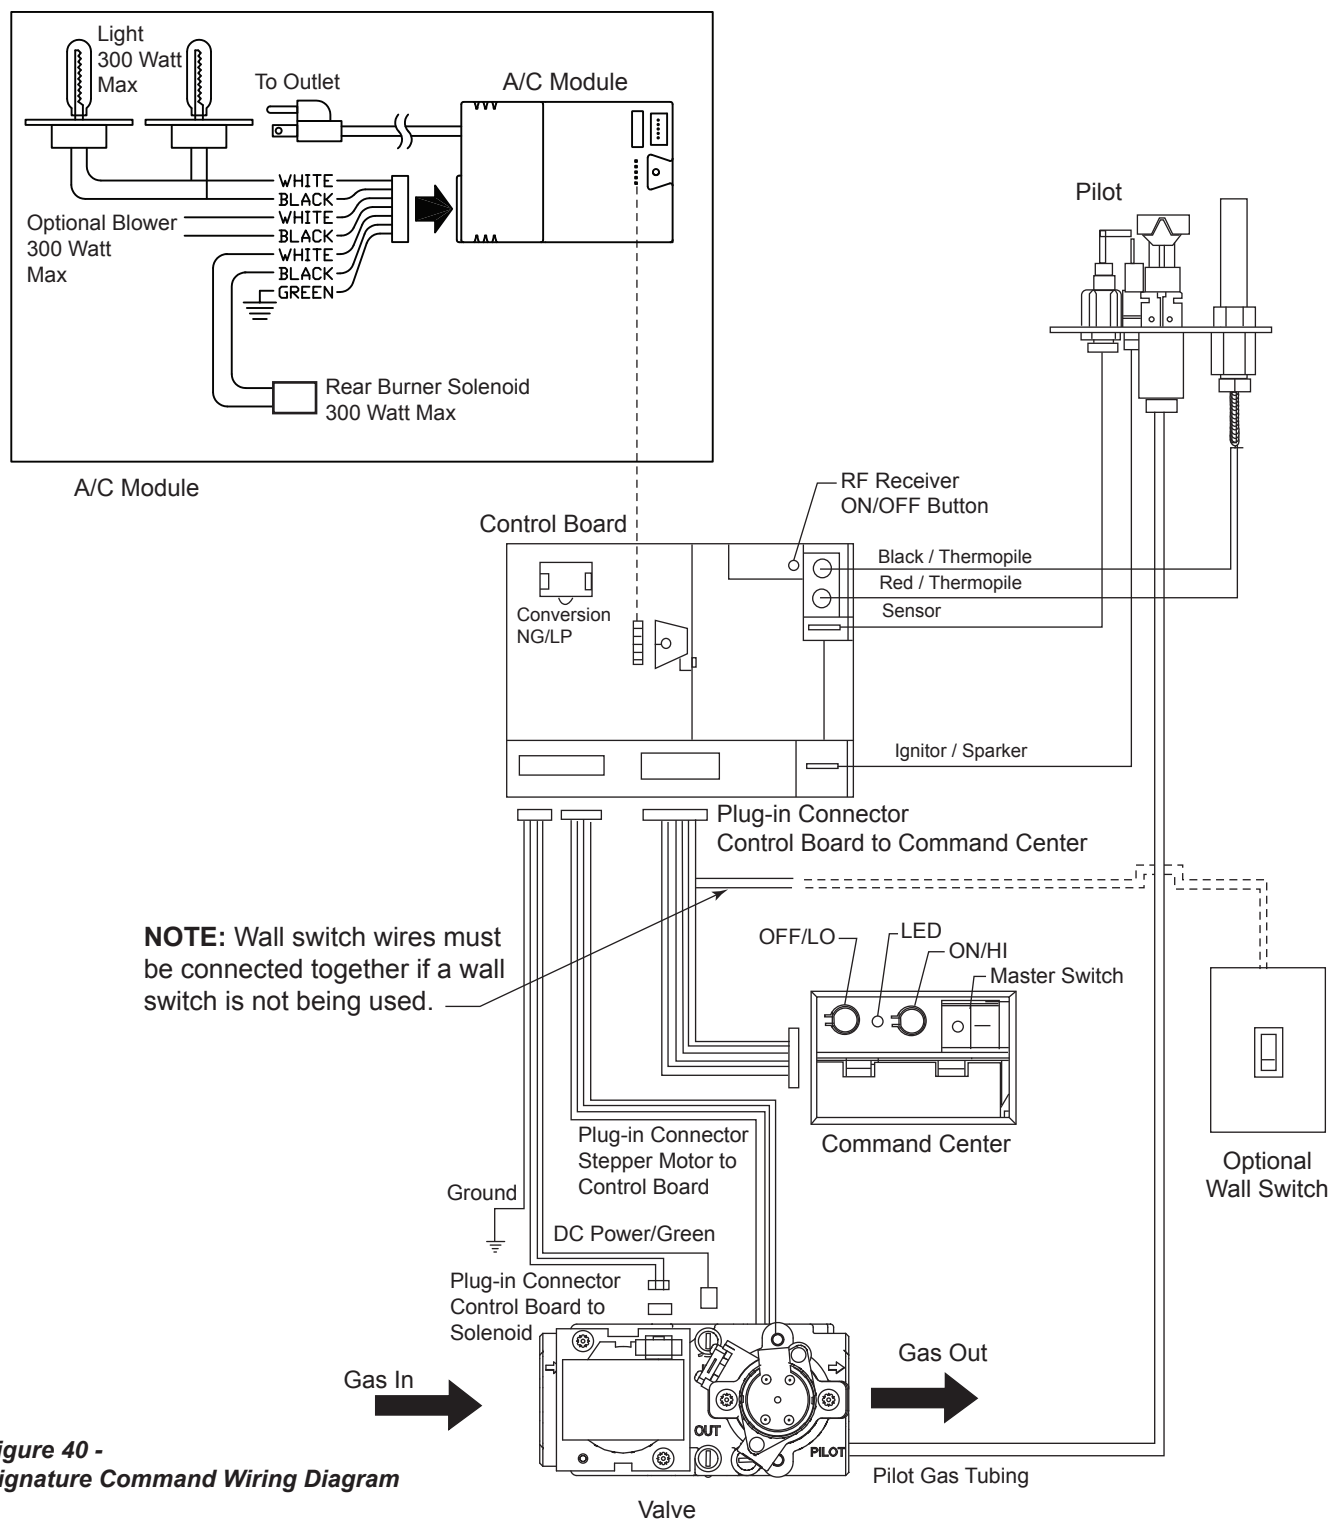

Figure 40 -
The wall switch wire connection is located off the 2 ft. wire harness from the control box to the command center. *Figure 40*. The connection is labeled “Wall Switch”. Unplug the male and female connectors and connect the two (2) low voltage wires provided. Run wire to desired location on wall. Up to 50 ft. of 18 ga. wire may be used if necessary. Attach wires to wall switch. Mount the wall switch in to junction box and screw on cover.